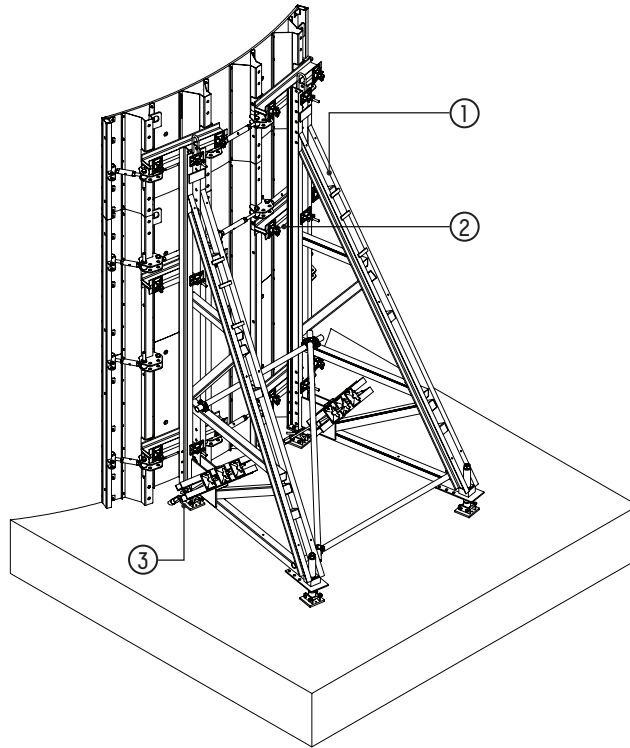

Fig. 52
(Fig. 52_d)
(Fig. 52_a)
(Fig. 52_b)
(Fig. 52_c)
Fig. 52_a
- Connect the frame to the horizontal auxiliary walings of the formwork (Circa-Flex transom 81) by means of "Circa-Flex fixing tie-rod shoring beam". (Fig. 52_b)
Fig. 52_b
When subjected to fresh concrete pressure, support reactions V and Z have to be balanced (Fig. 52_d). For the specific reaction values refer to the PILOSIO contact person or to the Technical Department of PILOSIO SPA.
► Two main solutions for anchoring point are available (Fig. 52_c):
**Fig. 52_c**
**Fig. 52_d**